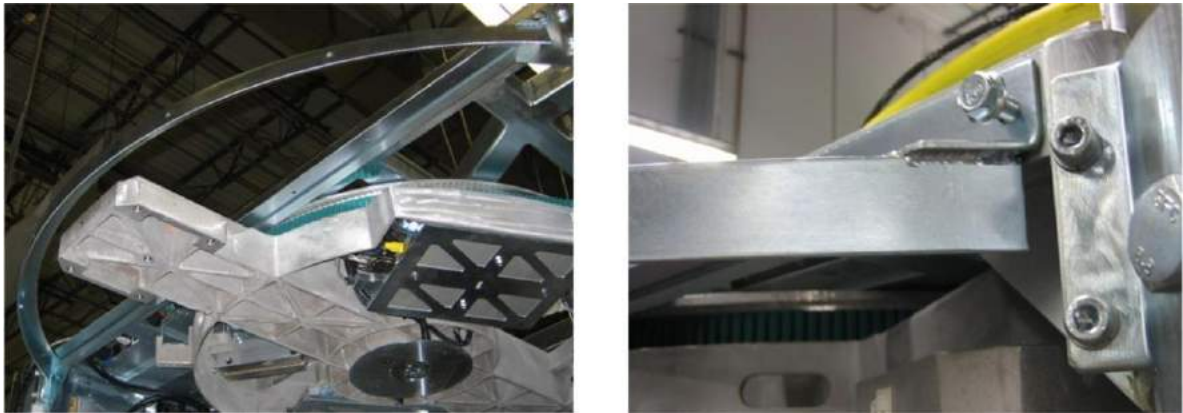

Figure 49: Top Outer Radome Angle Bracket with Bolt Inserted (Right)
7. Install each bracket so that the face of each bracket points away from the center of the scanner. Each mounting bracket is fastened using three M6 x 16mm FBHS screws (0201-10291-16), two M6 fender washers (0221-10027-00) on the top and bottom holes, and one curved plate (3000-23601-01) on the center hole as shown circled in red in Figure 49.